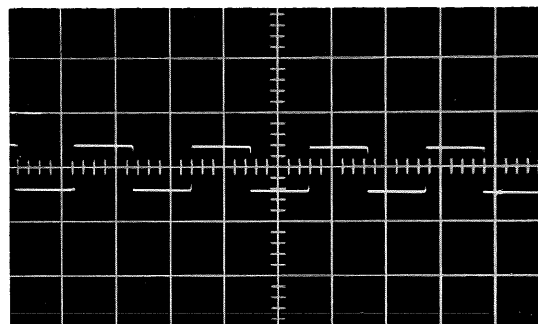

Fig. 1 Waveform present at the right-hand DIFFERENTIAL REFERENCE CALIBRATION binding post with the Type TU-3 operating in the ALTERNATE SWEEPS mode.
2. The waveform of the multivibrator may be checked with another oscilloscope at either of the DIFFERENTIAL REFERENCE CALIBRATION binding posts. When checking the alternate sweep waveform, set the NORMAL--ALTERNATE SWEEPS switch to ALTERNATE SWEEPS and the INPUT SELECTOR switch to SIGNAL. Set the Stability control of the Type 580 oscilloscope for a free-running trace at a sweep rate of about 50 microseconds per centimeter. On the test oscilloscope, set its input coupling switch for ac coupling. Fig. 1 shows the typical waveform observed with a test oscilloscope at the right-hand DIFFERENTIAL REFERENCE CALIBRATION binding post with the Type TU-3 operating in the ALTERNATE SWEEPS mode.